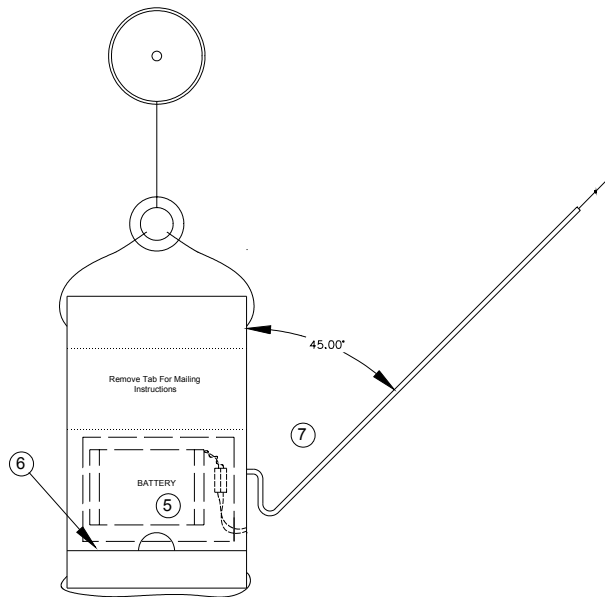

Figure 3 - Steps 5 through 7
- a. Orient the arm as shown in Figure 3.